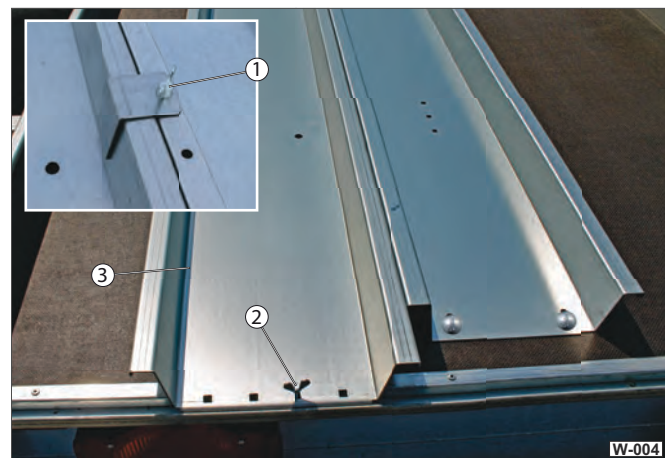

Fig. 4 Checking loading ramp
- ▶ Regularly check (at least every 6 months) the condition of the loading ramp (Fig. 4 /3) for cracks, deformation.
- ▶ Check that the clamping bracket with wing screw (Fig. 4 /1) is not deformed.
- ▶ Check that the rear wing screw (Fig. 4 /2) can be screwed in and that the loading ramp is held securely in place.